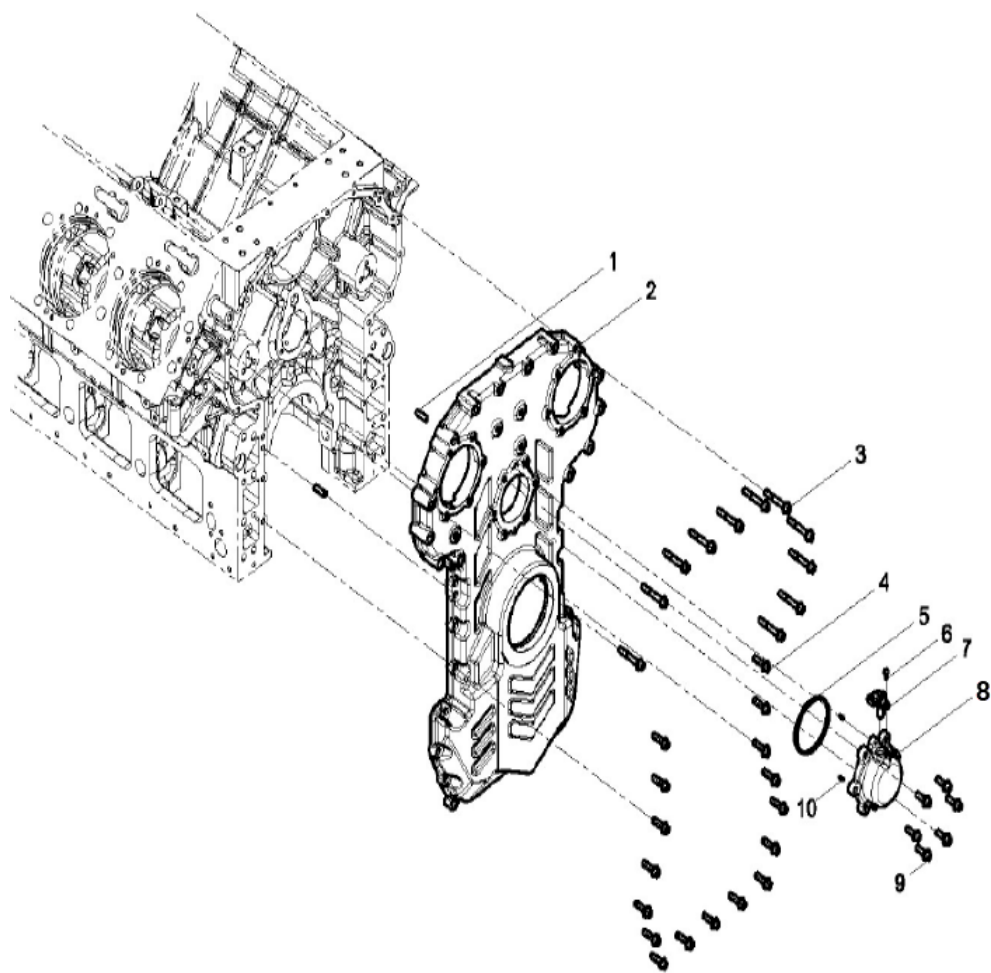

Figure 24. Front Cover Assembly
4. Remove the thirty-nine bolts (Figure 24, Item 3) from the front cover.
5. Remove the front cover (Figure 24, Item 2).
2. Apply PSI approved silicone sealant on the back of the front cover (Figure 24, Item 2).
3. Insert the two dowel pins (Figure 24, Item 1) if removed.
4. Place the front cover (Figure 24, Item 2) onto the front of the cylinder block and torque down all thirty-nine bolts (Figure 24, Item 3).